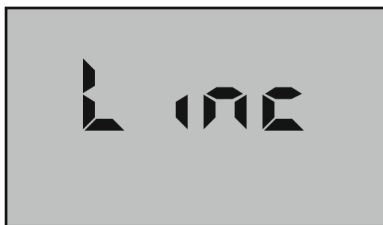

Figure 27
3. Press  arrow key until the menu “**Linc**” appears (see Figure 27).
- Press  key until the menu “**Linc**” appears (see Figure 27).